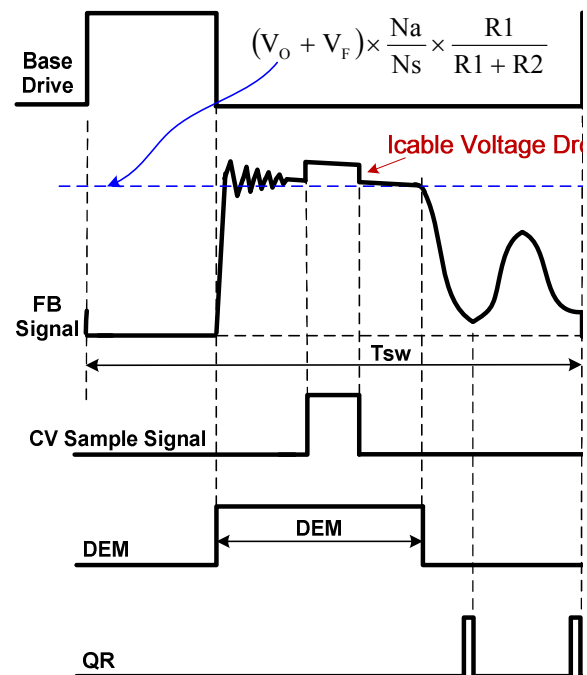

Fig.2
during the transfer of transformer energy to the secondary. Fig.2 illustrates the timing waveform of CV sampling signal, demagnetization signal (DEM) and quasi-resonant (QR) trigger signal in DP210X. When the CV sampling process is over, the internal sample/hold (S&H) circuit captures the error signal and amplifies it through the internal Error Amplifier (EA). The output of EA is sent to the Quasi Resonant PSR CV Modulator (QR-CVM) for CV regulation. A valley is selected to trigger new PWM cycle by the output of the QR-CVM block, which is determined by the load. The internal reference voltage for EA is trimmed to 1.25V with high accuracy.
During the CV sampling process, an internal variable current source is flowing to FB pin for Cable Drop Compensation (CDC). Thus, there is a step at FB pin in the transformer demagnetization process, as shown in Fig.2. Fig.2 also illustrates the equation for “demagnetization plateau”, where \$V_o\$ and \$V_F\$ is the output voltage and diode forward voltage; \$R_1\$ and \$R_2\$ is the resistor divider connected from the auxiliary winding to FB Pin, \$N_s\$ and \$N_a\$